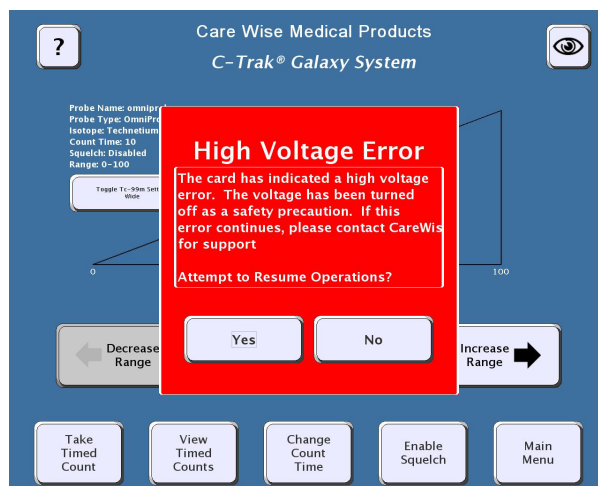

Figure 24 – High Voltage Error Message
**High Voltage Error** – [Figure 24] This error will appear if the system detects a short circuit in the probe or cable. Check the probe and cable for damage, and select YES to continue if there is no visible damage.